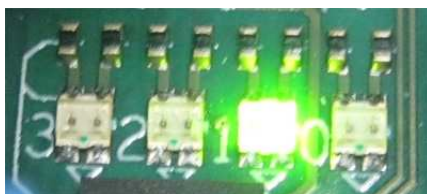

Figure 10 LED[1] Blink when data verification is failed
- LED[1] will be blink, if test data verification is failed, as shown in Figure 10. In this case, please check DIPSW[1] that test pattern setting is same as previous write test), and check DIPSW[4:2] that test size setting is not more than test size in previous write test.